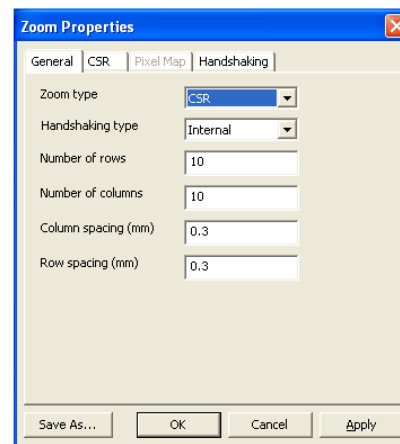

Figure 5 CSR –General Settings
1. Choose the zoom type in the **General** tab (see Figure 5):